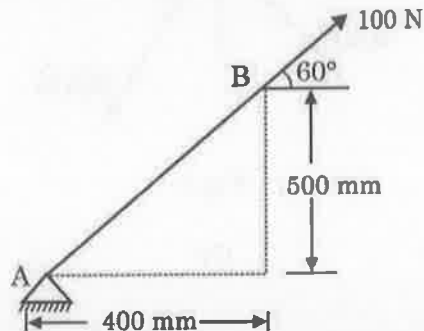

Fig 1
4. Find the moment of 100 N force acting at B about point A as shown in Figure. 1.